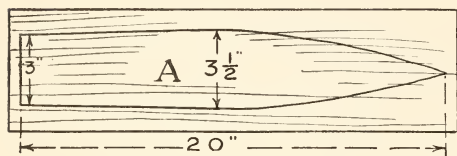
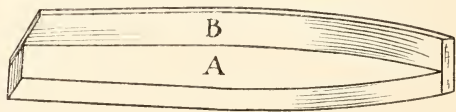

FIG. 51. — Diagram of Hull.
Fig. 52
**Prepare the Bottom of the Hull** out of a piece of wood 1 inch thick, making it of the shape and dimensions shown in Fig. 51. Be careful to curve the side edges the same. Use a saw for cutting out the piece, then smooth up the edges with a plane and sandpaper. The stern should be sawed off on a bevel as shown in Fig. 52.
**The Sides** of the hull (*B*, Figs. 52 and 53) are thin strips  $2\frac{1}{2}$  inches wide. Nail one to one edge of the bottom block,
FIGS. 52 and 53. — How the Hull, Sides, Stern and Deck Pieces are Assembled.